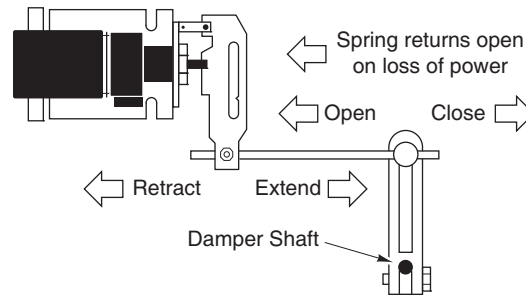
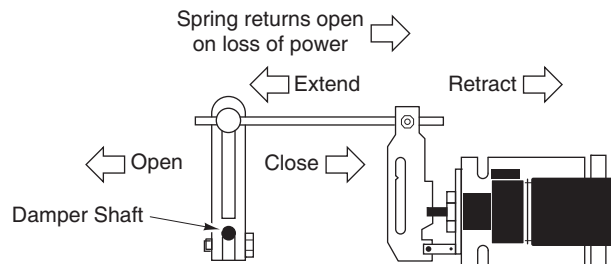

Figure-13 Dampers Open When Actuator Retracts (Spring-Returns Open on Power Loss).
Figure-14 Dampers Open When Actuator Extends (Spring-Returns Closed on Power Loss).
- Determine, from the system requirements, if the damper should spring-return to the open position (Figure-13) or closed position (Figure-14) whenever power is lost to the actuator. For example, an outside air damper actuator is typically linked so as to retract (spring-return) to the damper's fully closed position (safe position).